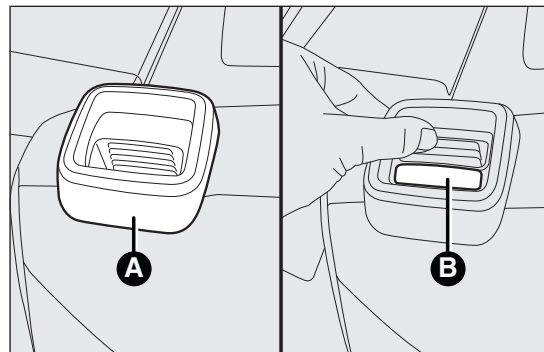

fig. 71
- ❑ *for versions with single rear seat:* operate backrest retainer lever A fig. 71 and fold the backrest forwards to obtain a flat loading area. When you lift the lever, you will see a red band B fig. 71.